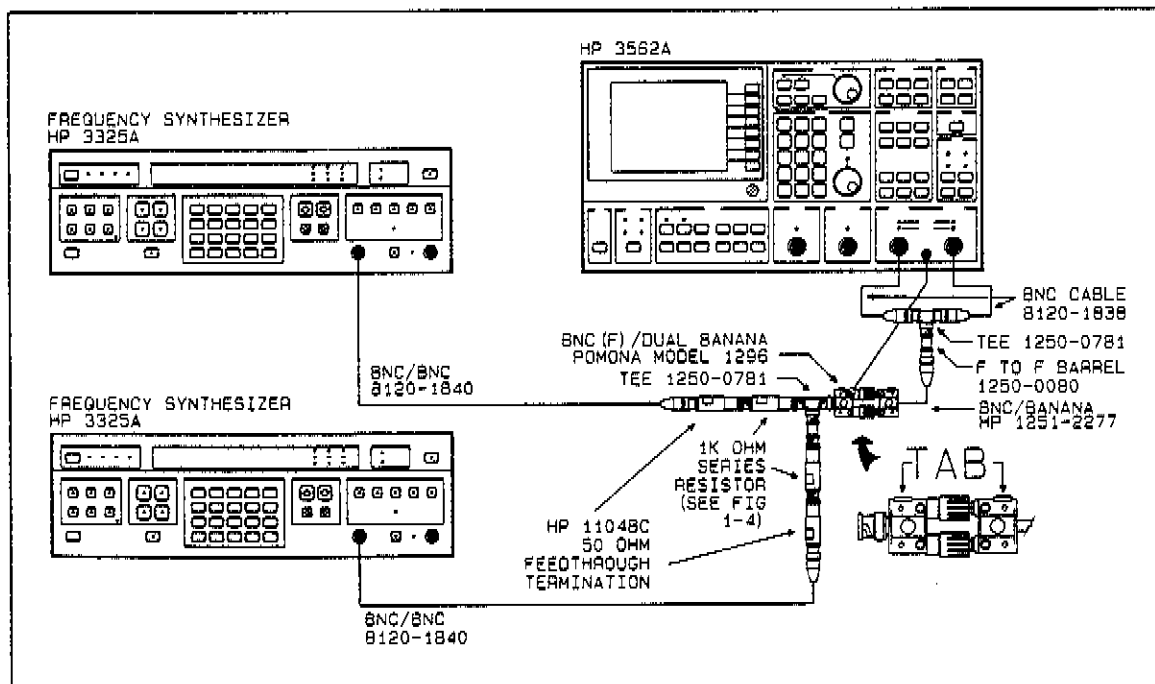

Figure 2-23 Intermodulation Distortion Test Setup #1
- A. Connect the test instruments as shown in figure 2-23. Keep the connecting cables as short as possible. Refer to "Initial Equipment Setup," paragraph 2-20, for unspecified parameters.
G. Connect the test instruments as shown in figure 2-23.